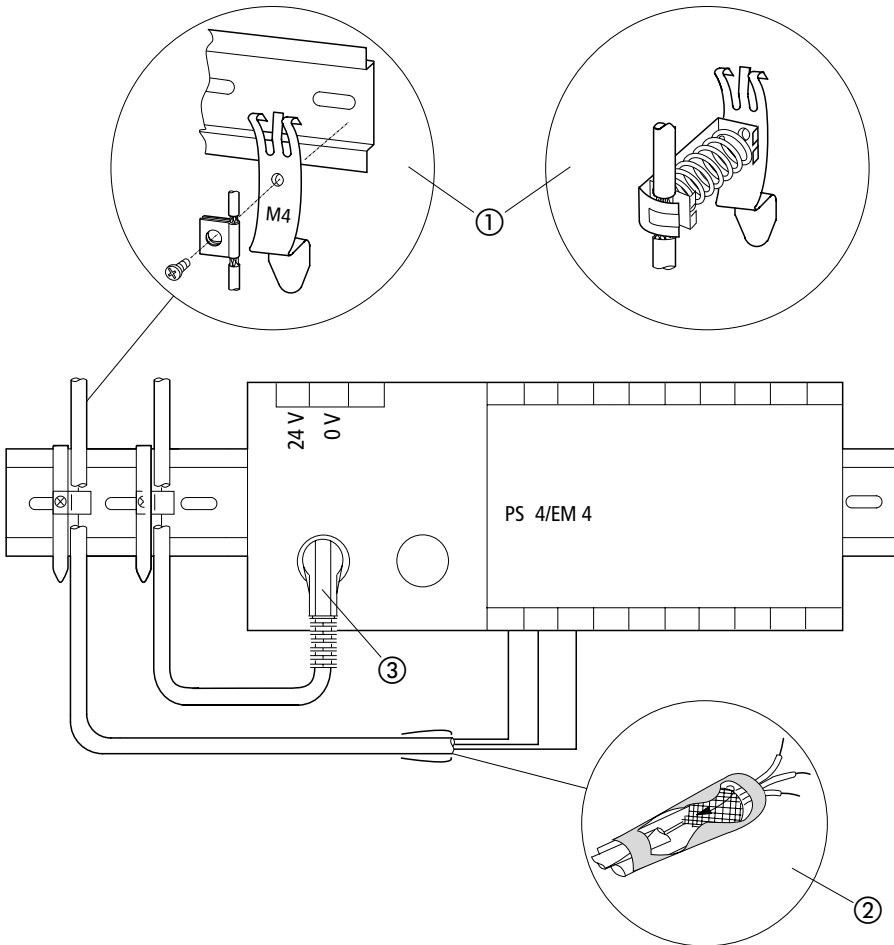

Figure 3: Grounding the screens of the cables
Route screened data and signal cables on the left and the right of the device along the shortest possible distance and connect the screen braid to the ground terminal using a low-impedance connections and large contact areas (See Figure 3, item ①).
- Connect the screen braid with the metal sleeve of the plug connector (DIN plugs) ③.
- Insulate the end of the screen braid as close as possible to the signal cable entry ②.
- Create a low-impedance connection between the screen of the Suconet K data cable and the ground terminal over the largest possible area (e.g. using a metal cable clamp) (see Figure 3).